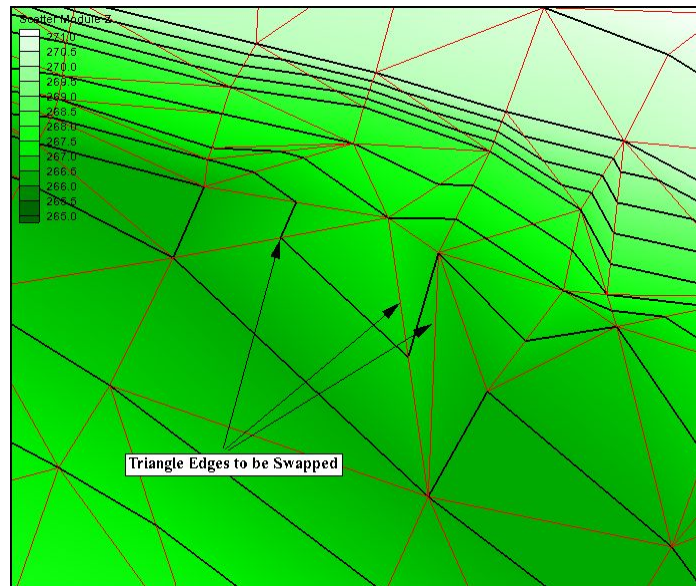
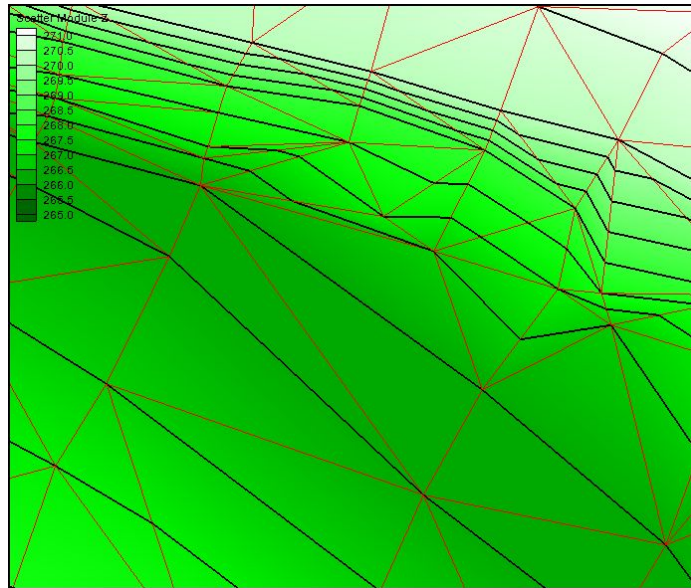

Figure 6 Zoomed out area showing triangle edges to be swapped
Figure 7 Figure showing triangle after edge has been swapped
8. After zooming, the screen should look like Figure 6. Note the linear contour around the edges to be swapped. It is not smooth or straight. In fact, two contours actually converge to a single line. This is possible if a vertical cliff exists, but is not likely in this situation. Natural contours tend to be smooth. A good guideline is to swap edges so that linear contours are smooth.
2. Click on each of the three edges identified in Figure 6. The TIN should be edited to appear like Figure 7. Note how the two contours are now distinct and much smoother.